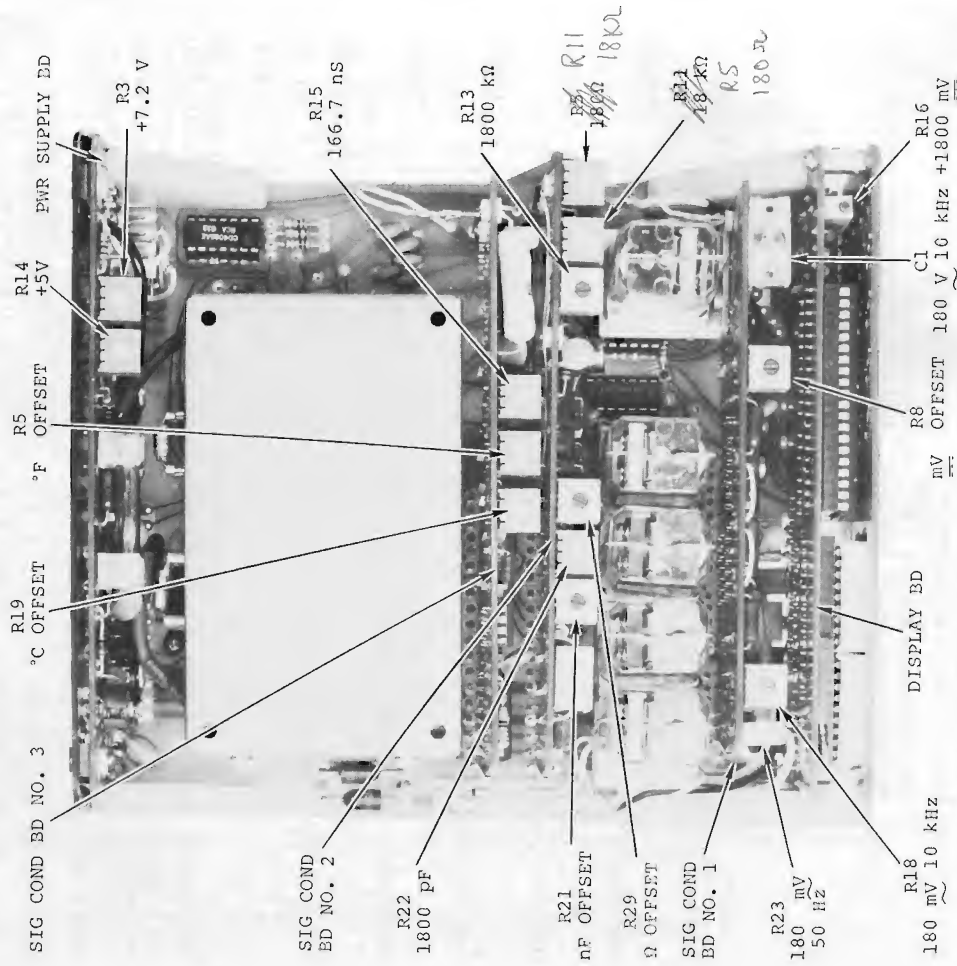

Figure 4-1. Calibration Adjustments
4-2. In the calibration instructions provided in this section, it is assumed that the instrument is in good working order and only requires calibration. If any components are defective, it may be difficult, if not impossible to calibrate the instrument. Figure 4-1 displays the location of components required for adjustment.
- Adjust R3 on Power Supply Board (figure 4-1) so that voltage across capacitor measures $+7.2$ VDC ± 0.05 VDC.
- Adjust R3 on Power Supply Board (figure 4-1) so that voltage at the 2A fuse measures $+7.2$ VDC ± 0.05 VDC with respect to ground.
- Adjust R14 on Power Supply Board (figure 4-1) so that voltage at pin 1 of any plug-in board measures $+5.00$ VDC ± 0.05 VDC with respect to ground (pin 3).
c. Adjust R14 on Power Supply Board (figure 4-1) so that voltage at pin 1 of any plug-in board measures +5.00 VDC \pm 0.05 VDC with respect to ground (pin 3).
c. Press mV (DC) switch and then left decimal switch.
e. Adjust R8 on Signal Conditioning Board No. 1 (figure 4-1) so that readout displays + or - 0.00.
b. Press PWR ON switch and then mV (DC) switch.
d. Adjust R16 on display board (figure 4-1) so that readout displays +1800.
c. Press mV (AC) switch and then mid decimal switch.
e. Adjust R23 on Signal Conditioning Board No. 1 (figure 4-1) so that readout displays 180.0.
g. Adjust R18 on Signal Conditioning Board No. 1 (figure 4-1) so that readout displays 180.0.
a. Press V (AC) switch and then mid range switch.
c. Adjust C1 on Signal Conditioning Board No. 1 (figure 4-1) so that readout displays 180.0.
- e. Adjust R29 on Signal Conditioning Board No. 2 (figure 4-1) so that readout displays 00.0.
- e. Adjust R5 on Signal Conditioning Board No. 2 (figure 4-1) so that readout displays 180.0.
- h. Adjust R11 on Signal Conditioning Board No. 2 (figure 4-1) so that readout displays 18.00.
- k. Adjust R13 on Signal Conditioning Board No. 2 (figure 4-1) so that readout displays 1800.
- e. Adjust R21 on Signal Conditioning Board No. 2 (figure 4-1) so that readout displays 00.0.
- c. Adjust R22 on Signal Conditioning Board No. 2 (figure 4-1) so that readout displays the known value.
- e. Adjust R15 on Signal Conditioning Board No. 3 (figure 4-1) so that readout displays 166.7.
- e. Adjust R19 on Signal Conditioning Board No. 3 (figure 4-1) so that readout displays +025.
- c. Adjust R5 on Signal Conditioning Board No. 3 (figure 4-1) so that readout displays +077.